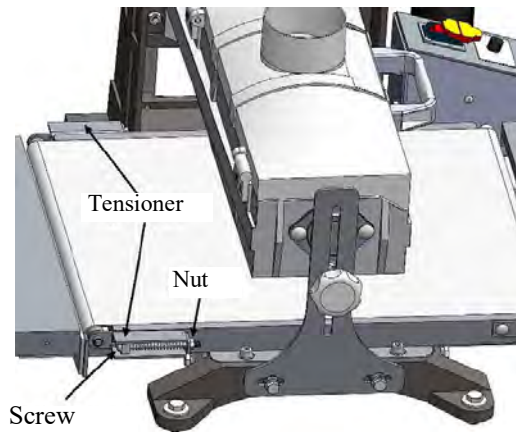

Fig. 35: Tension feed belt
Step 2: Make sure that the feed belt is centered on the rollers. If this is not the case, loosen the belt tension equally on both sides of the belt. This is done by holding the hex nut while turning the screw (Fig.35) counterclockwise until the belt can be moved by hand from side to side. Then center the belt on the rollers.